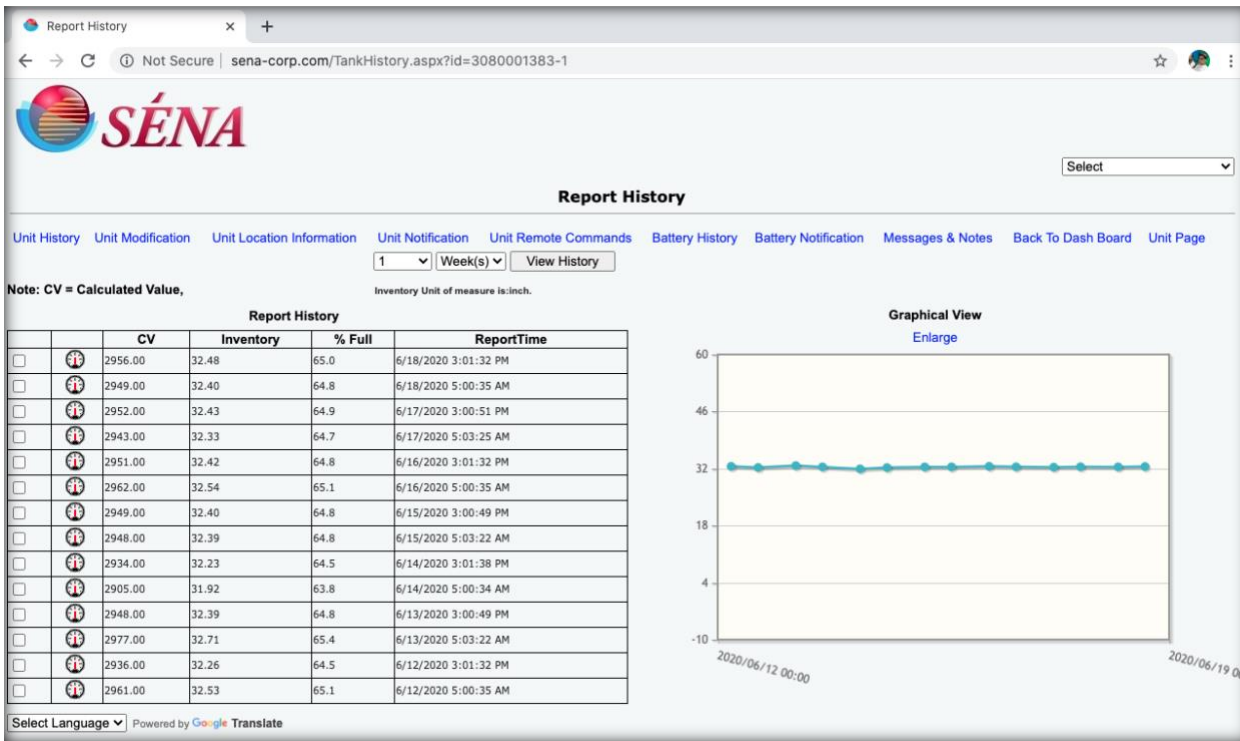

Figure 9
- 10) For check Report history click on hyper link “Unit History”. You will navigate to Unit History Page. Figure 9.